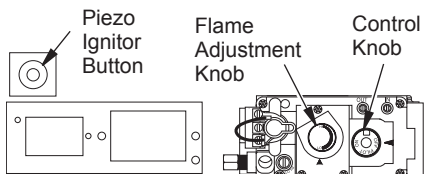
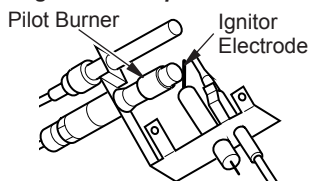

Figure 29 - Control Knob and Ignitor Button Location (Shown as Supplied - No Control Options)
Figure 31 - Natural Gas Pilot
3. Press in and turn control knob clockwise  to the OFF position (see Figure 31).
4. Wait five (5) minutes to clear out any gas. Then smell for gas, including near the floor. If you smell gas, STOP! Follow "B" in the safety information, page 20. If you don't smell gas, go to the next step.
5. Press in and turn control knob counterclockwise  to the PILOT position. Press in control knob for five (5) seconds (see Figure 29).